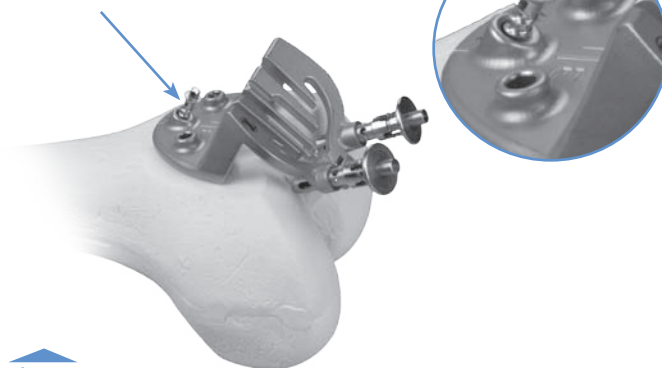

Fig. 29
- Central oblique screw (Fig. 29)